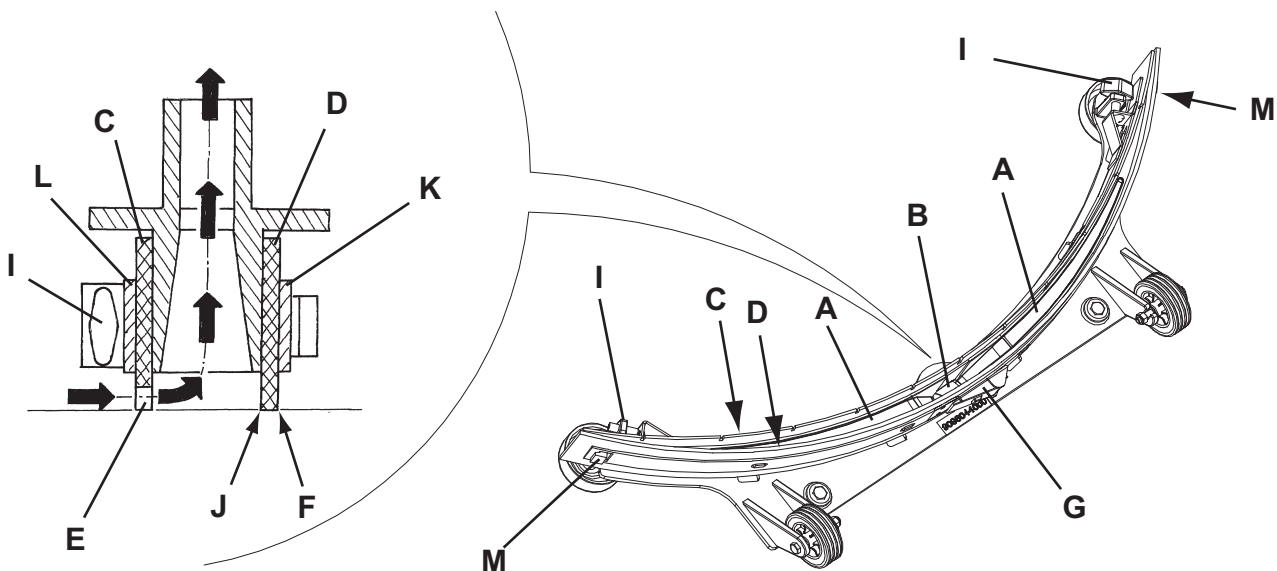

Figure 4
3. Lower the squeegee (25) with the lever (10).
4. Loosen the handwheels (26) and remove the squeegee (25).
5. Disconnect the vacuum hose (15) from the squeegee.
6. Wash and clean the squeegee (Fig. 4). In particular, clean the compartments (A, Fig. 4) and the vacuum hole (B) from dirt and debris. Check the front blade (C) and the rear blade (D) for integrity, cuts and tears; otherwise replace them (see the procedure in the following paragraph).
1. Clean the squeegee (Fig. 4) as shown in the previous paragraph.
2. Check that the edge (E, Fig. 4) of the front blade (C) and the edge (F) of the rear blade (D) lay down on the same level, along their length; otherwise adjust their height according to the following procedure:
- Remove the tie rod (G), disengage the fasteners (M) and adjust the rear blade (D), then engage the fastener and install the tie rod.
- Loosen the handwheels (I) and adjust the front blade (C), then tighten the handwheels.
3. Check the front blade (C) and rear blade (D) for integrity, cuts and tears; otherwise replace them according to the following procedure. Check that the front corner (J) of the rear blade is not worn; otherwise, overturn the blade to replace the worn corner with an integral one. If the other corners are worn too, replace the blade according to the following procedure:
- Remove the tie rod (G), disengage the fasteners (M) and remove the retaining strip (K), then replace/overturn the rear blade (D). Assemble the blade in the reverse order of disassembly.
- Unscrew the handwheels (I) and remove the retaining strip (L), then replace the front blade (C). Assemble the blade in the reverse order of disassembly.